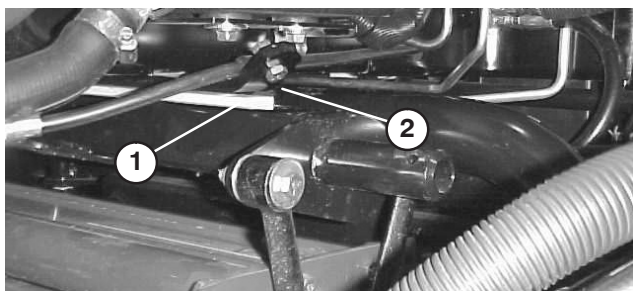
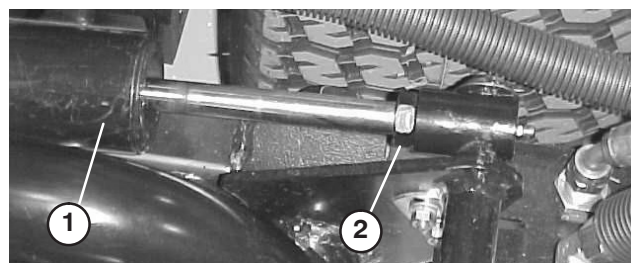

Figure 23
Figure 24
3. Start engine, raise lift arms and check to make sure clearance between wear strap on top of rear cutting unit wear bar and bumper strap is .020” – .100” (Fig. 23). If clearance is not in this range, adjust rear cylinder to attain clearance. To adjust cylinder, lower the cutting units and back off the jam nut on the cylinder (Fig. 24). Grasp cylinder rod close to the nut with a pliers and rag and rotate the rod. Raise the cutting units and check clearance. Repeat procedure if required. Tighten clevis jam nut.